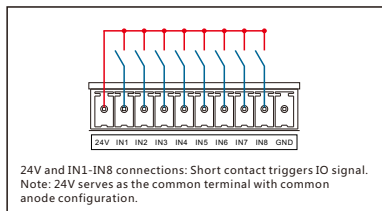

Figure 6. Dry Contact Wiring Diagram
Product Wiring: See Figure 6 and 7
3. Terminal Blocks: inputs IN1-IN8 , 24V is the common terminal (common anode) 24V, GND output voltage, (see Figure 6)